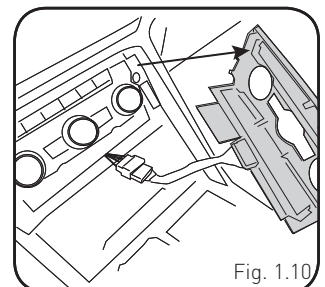

Fig. 1.10
9. Using a panel tool, pry outward on the trim panel around the climate controls. Disconnect the harness from the start/stop switch. (Fig. 1.10)